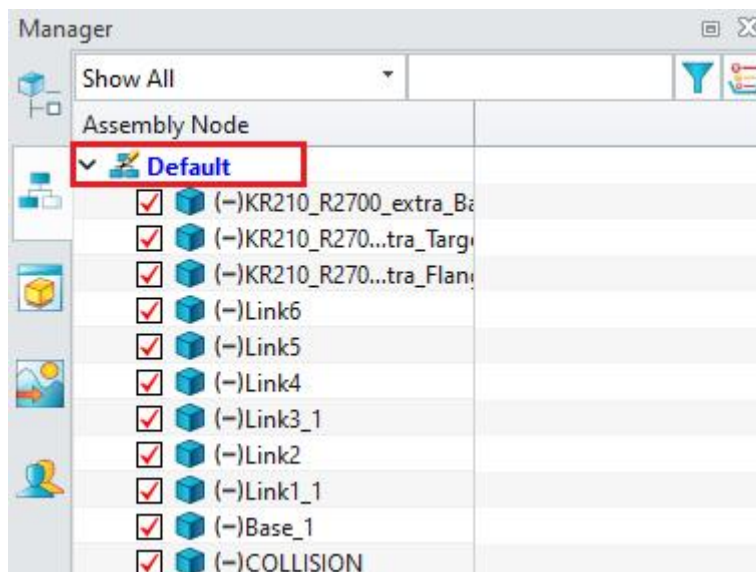

Figure 11-9: Activate Assembly
- ✧ Double-click on the “KR210_R2700_extra” assembly to activate it as a whole. (Figure 11-9)